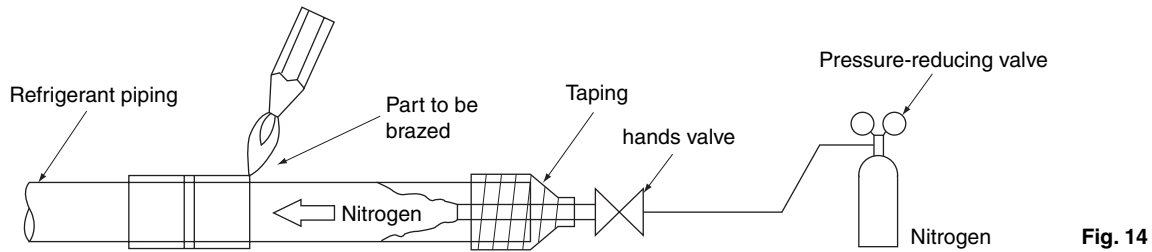

Fig. 14
- Nitrogen should be set to 2.9 psi with a pressure-reducing valve if brazing while inserting nitrogen into the piping. (Refer to Fig. 14)